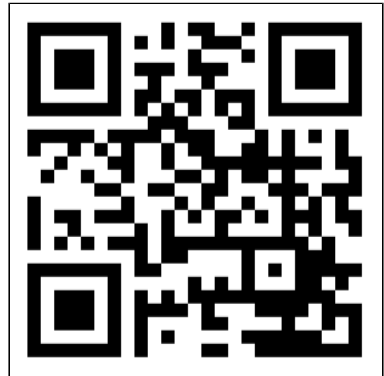

Figure 22.
1. Open the Eurom Smart App manual with the QR code (Figure 22) or go to [www.eurom.nl/nl/manuals](http://www.eurom.nl/nl/manuals).